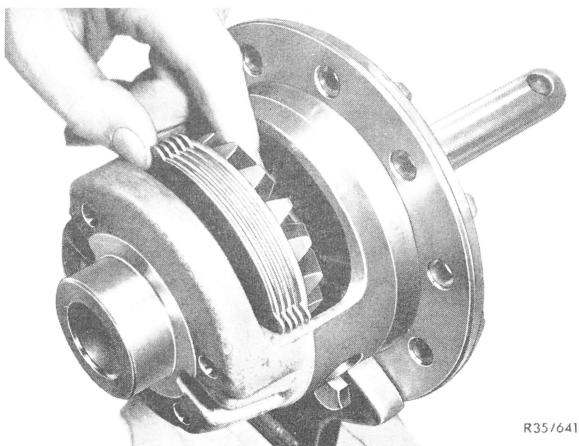

Fig. 6
7 Remove righthand side gear with friction plates (Fig. 6).
- 13** Install righthand side gear with friction plates and insert assembly mandrel (Fig. 6).